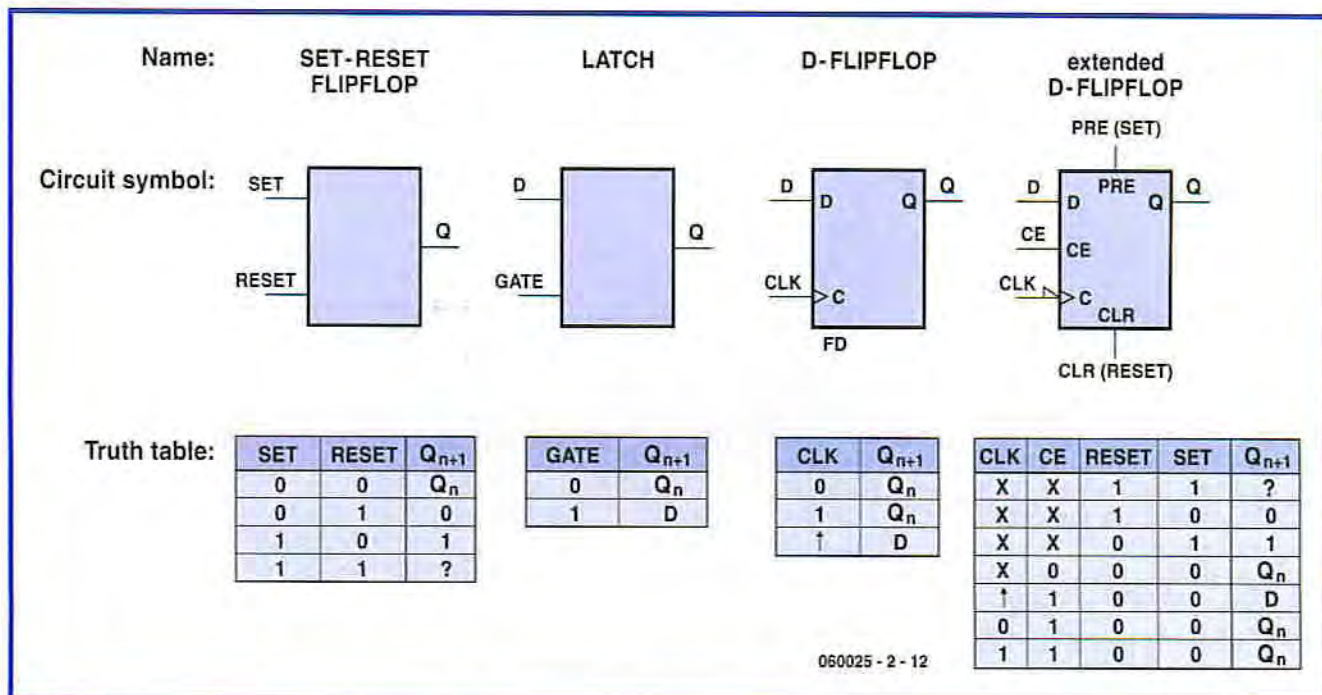

Figure 2. Various types of flip-flops and their truth tables.
A slightly more advanced form of flip-flop is the type known as a 'latch'. Its truth table is shown in **Figure 2.** This type of flip-flop has two inputs – D ('data') and Gate – and one output (Q). The Q output is the same as the D input as long as the Gate input is '1'. When the Gate input goes to '0', the Q
output retains its value regardless of the state of the D input. It effectively stores the state of the D input at the time when the Gate signal became '0'. The next step brings us to the D-type flip-flop. The output of this type of flip-flop assumes the state of the input when the signal on the CLK input changes from '0' to '1'. That is indicated in the truth table by an arrow. The output remains unchanged as long as the CLK input stays at '1' or '0'. The D-type flip-flop can be expanded with a variety of additional inputs. **Figure 2** shows such an expanded D-type flip-flop. It has three inputs in addition to the D and CLK inputs: SET, RESET and CE. The SET and RESET inputs perform the same functions as with an SR flip-flop. The clock enable (CE) input of this flip-flop controls the response to the clock signal: a rising edge on the CLK input has no effect if the CE input is not in the High state.